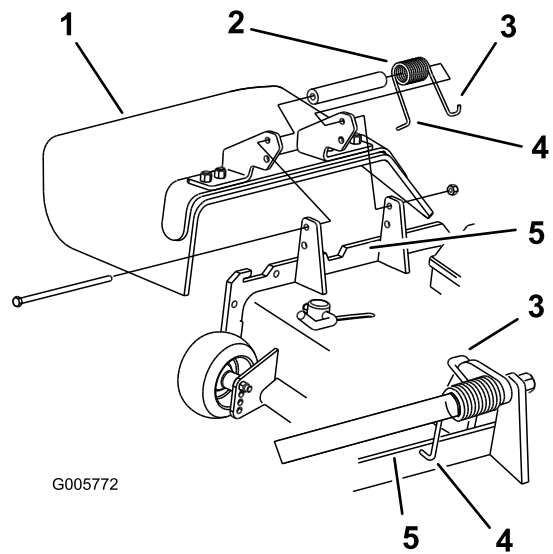

Figure 17
1. Make sure the **L** end of spring is installed behind the deck edge before installing the bolt as shown in Figure 17.
2. Place the **J** hook end of spring around grass deflector (Figure 17).